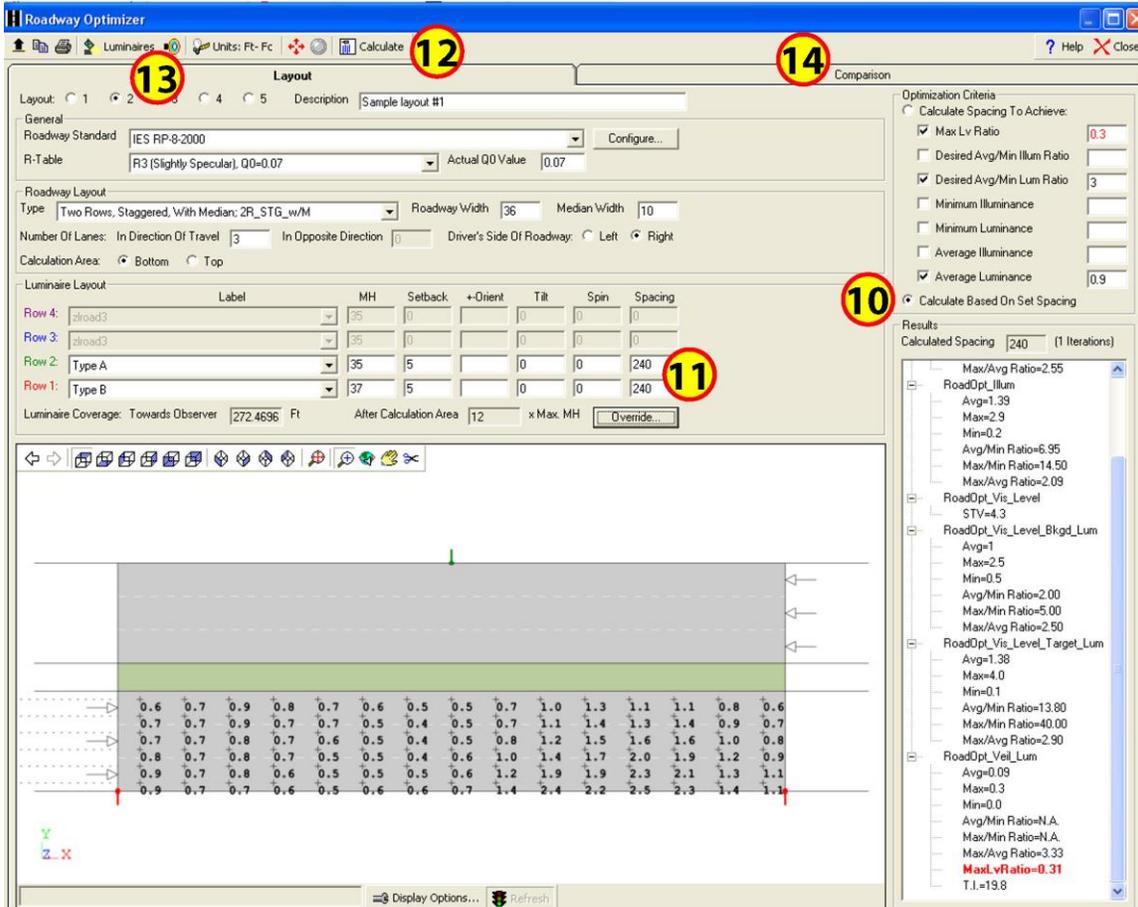

Figure 2 – Calculate Set Spacing in Roadway Optimizer
## Refine the pole spacing manually if desired (Figure 2):
**Create additional layouts and compare (Figures 2 & 3):**